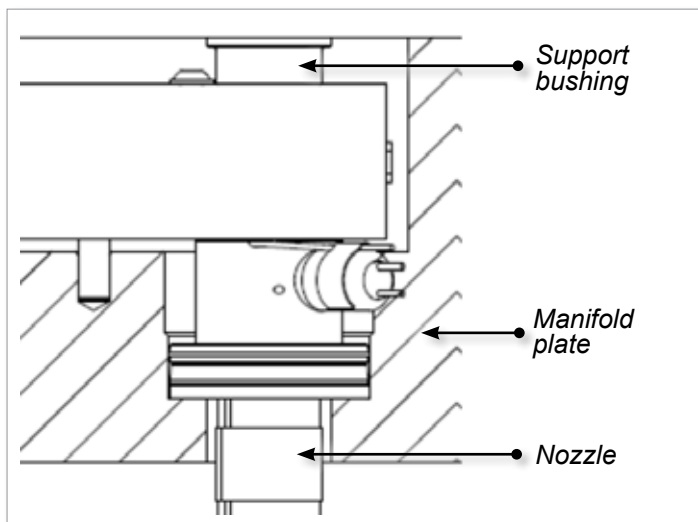

Figure 5-25 Support bushing in Master-Shield systems
3. Use a dowel pin to install all of the support bushings into the manifold. See Figure 5-25.